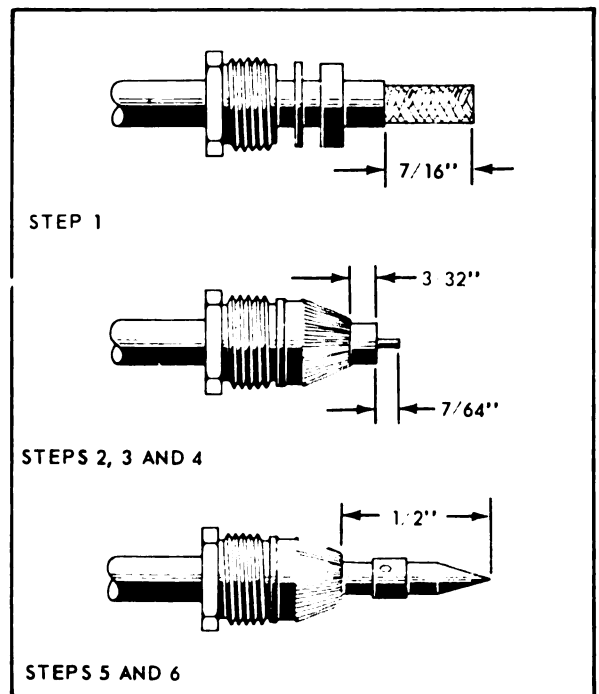

Figure 4-40. Attaching Avien 163-088 and 163-089 Connectors to Coaxial Cable
a. Assembly of Avien 163-088 and 163-089 connectors to RG-58A/U coaxial cable: See figure 4-40.
5. Slide contact onto conductor, and check that there is no exposed conductor between the insulation and the contact solder hole. Check that the distance from the braid to the end of the contact is 1/2 inch as shown in figure 4-40.